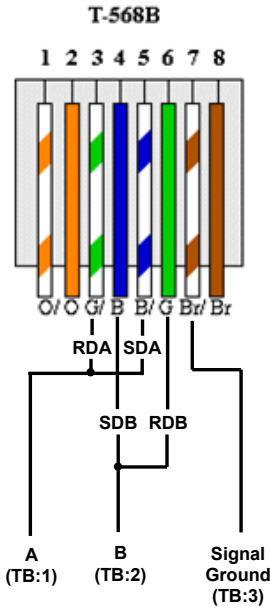
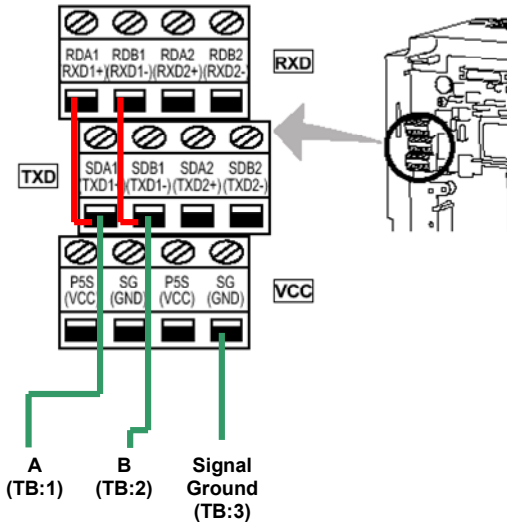

Figure 30: PU Port Connections
Figure 31: 700-Series ASD Connections
Connect as shown in Figure 30.
- For 700-series drives, the gateway can connect to the ASD via either the PU (panel) connector as indicated in Figure 30, or via the on-board RS-485 terminals. Because both of these ports externally present a 4-wire RS-485 network, connecting them to the gateway requires jumpering the network wires for 2-wire format (i.e. connecting SDA-RDA and SDB-RDB). When using the on-board RS-485 terminals, connect as shown in Figure 31.